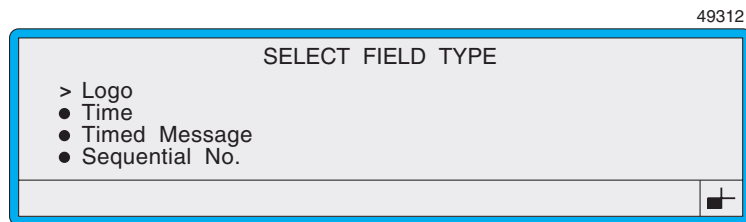

Figure 4-37 Select Field Type: Logo
3. Scroll to the **Logo** option (as shown in Figure 4-37 above), then press the [enter] key.